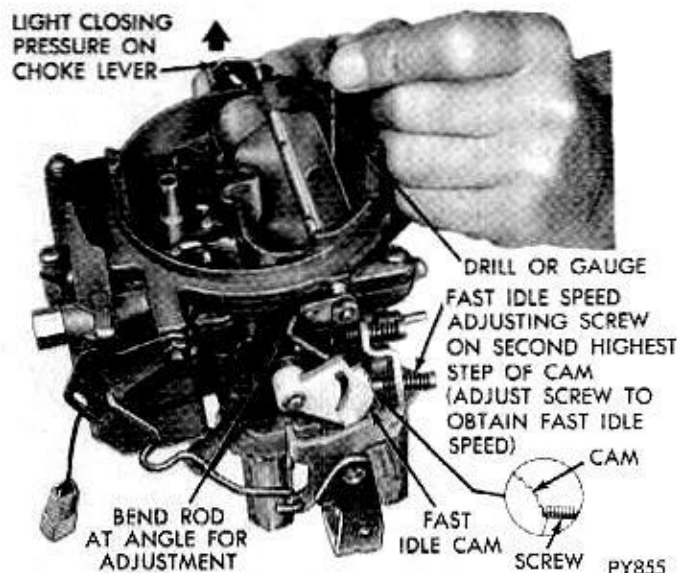

Fig. 21—Fast Idle Speed and Cam Position Adjustment
(1) With fast idle speed adjusting screw contacting second highest speed step on the fast idle cam, move choke valve toward closed position with light pressure on choke shaft lever.
(2) Insert specified drill (see Specifications) between top of choke valve and wall of air horn. (Fig. 21). An adjustment will be necessary if a slight drag is not obtained as drill shank is being removed.
(3) If an adjustment is necessary, bend fast idle connector rod at angle, using Tool T109-213, until correct valve opening has been obtained.
These five AVS carburetors are equipped with a distributor ground switch, which retards the distributor when the carburetor is at idle, for better emission control. The idle speed solenoid which is mounted on these carburetors, (Fig. 21) is used to maintain a high-